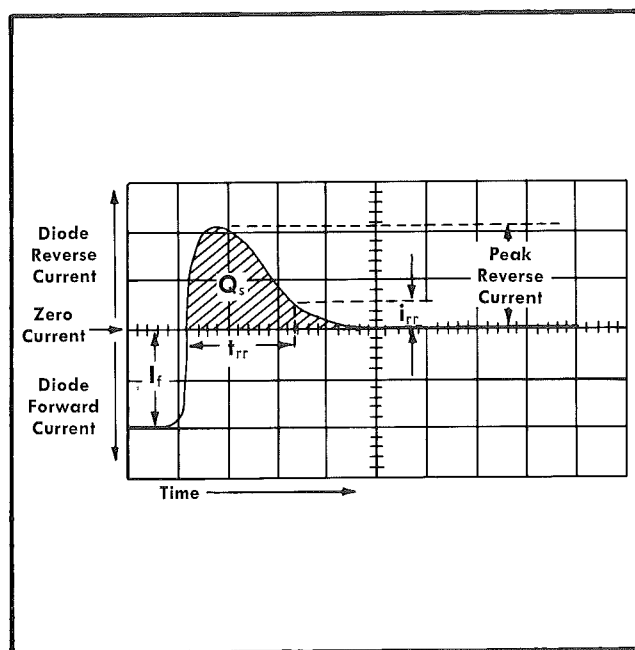

Fig. 3-2. Diode reverse recovery switching display.
**Stored Charge ( $Q_s$ )**—Amount of charge stored by the diode, and recovered during reverse recovery. Represented by shaded area in Fig. 3-2, and usually stated in coulombs.
8. Turn the pulse generator on, and set the oscilloscope triggering controls for a display similar to that shown in Fig. 3-2. Use this display to measure the reverse-recovery switching characteristics of diodes whose  $V_r$  (then  $E_{gen}$ ) is known. Proceed to step 9 if the peak reverse current is known.